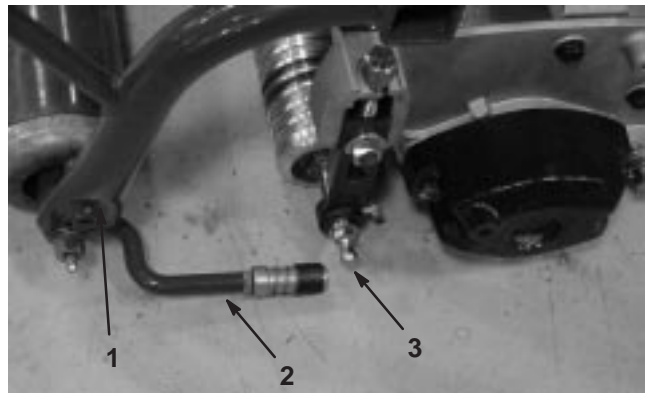

Figure 9
2. Mount a washer and ball stud to each end of the front roller on the cutting units (Fig. 9).
- Slide the sleeve back on the ball joint and rotate the pull arm down so the socket fits over the ball stud. Release the sleeve so it slides over the stud and locks the assemblies together (Fig. 9).